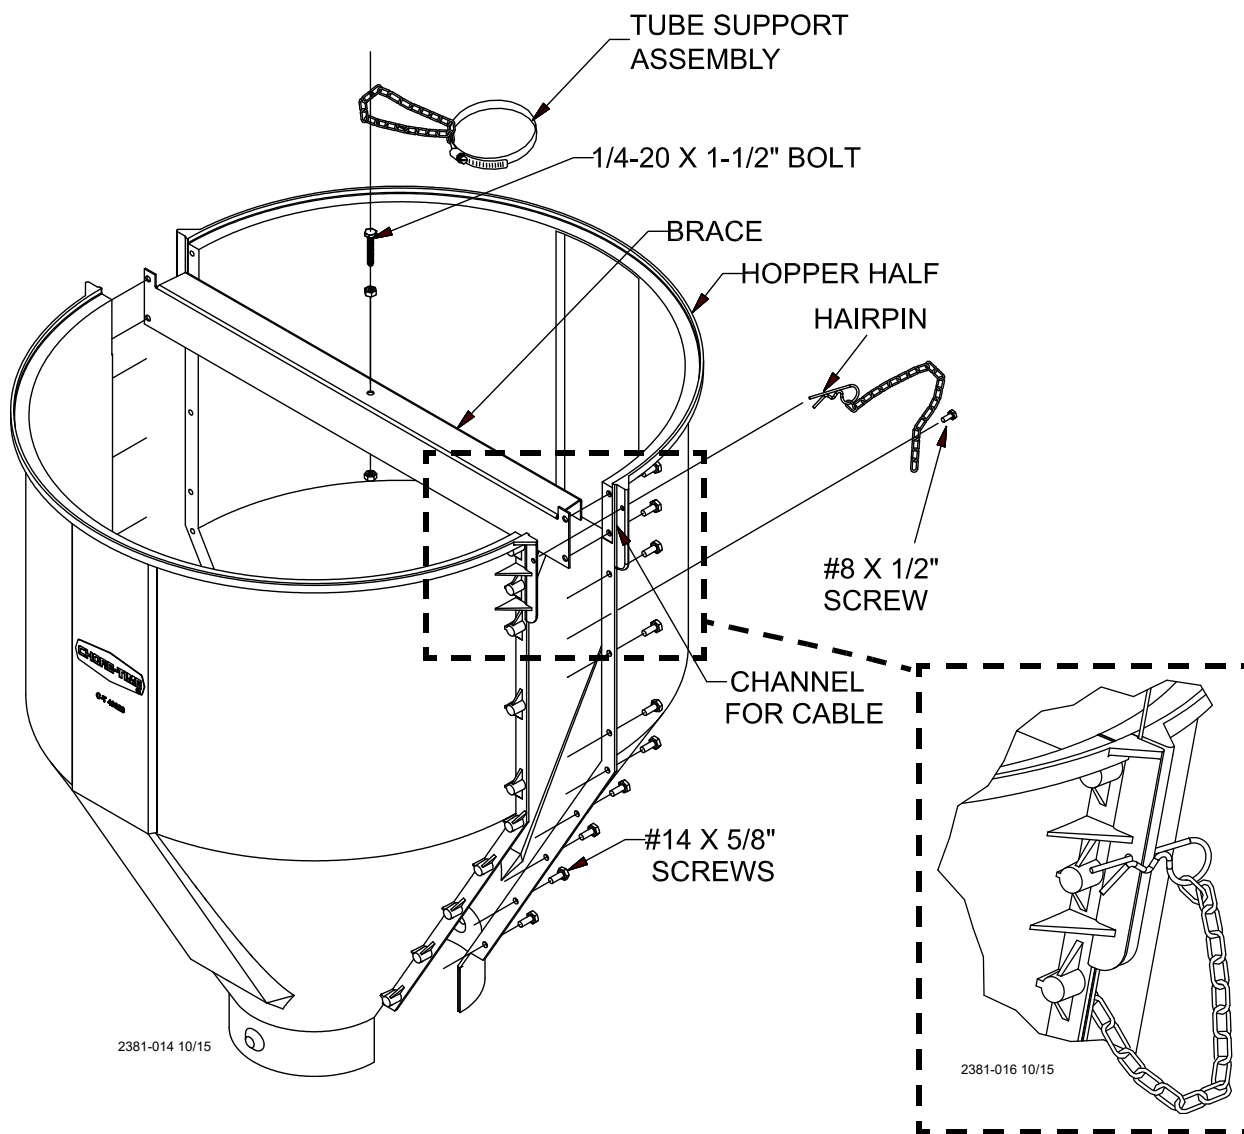

Figure 21.Hopper Assembly (Top)
1. Assemble the 1/4-20 x 1-1/2" bolt to the brace with two 1/4-20 nuts. One nut should be assembled under the brace with the other on top. This bolt is to provide a place for the tube support assembly chain to be hooked, see figure 21.
2. Assemble the 150 lb. hopper halves and brace as shown in **Figure 21.**, using #14 x 5/8" screws (supplied in hardware package).
3. Assemble the #8 x 1/2" screws and chain as shown in **Figure 21.**